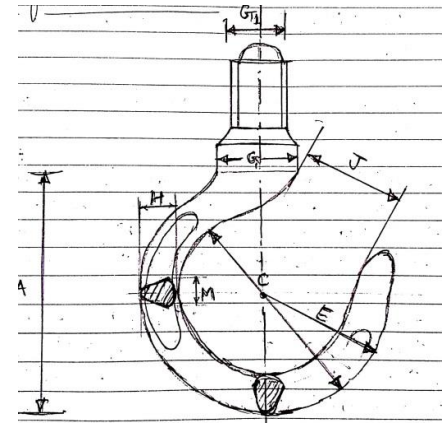

Figure : 2 (Que : 5(b))
- (b) Design a crane hook as shown in figure: 2 for lifting capacity of 5 tons. It is 07